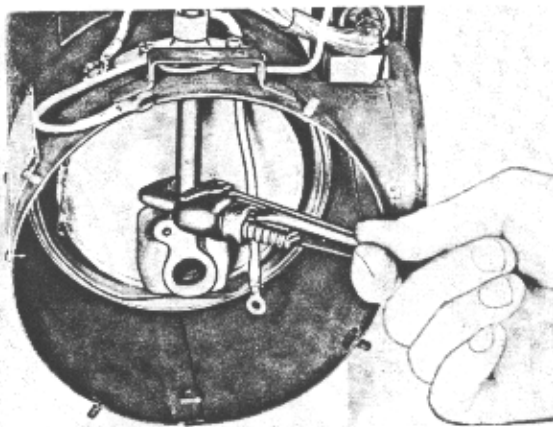

Figure 45
2. Using a pipe wrench, loosen standpipe from igniter housing (Figure 45) and remove standpipe by lifting straight up through the heater case.